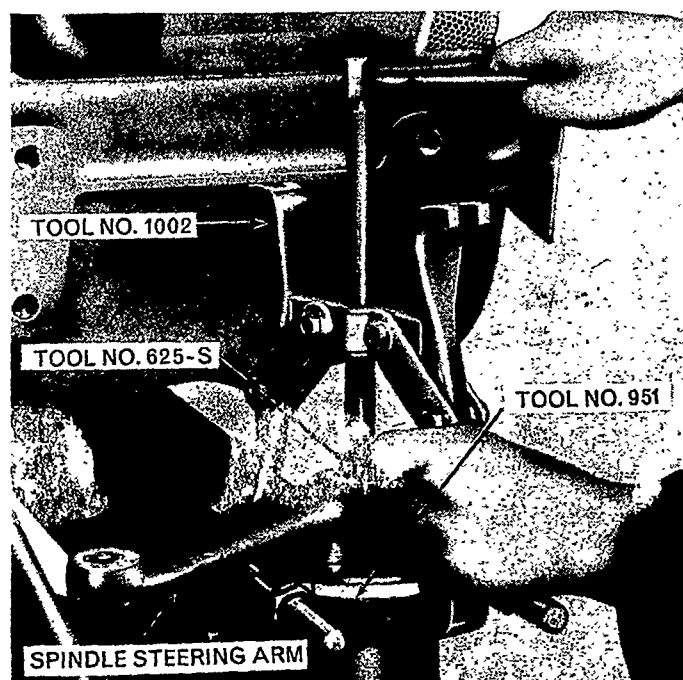

Figure 13
9. Remove the steering spindle arm from the wheel spindle. If the arm is tight on the spindle use Tools 1002, 951 and 625 to remove, Figure 13.